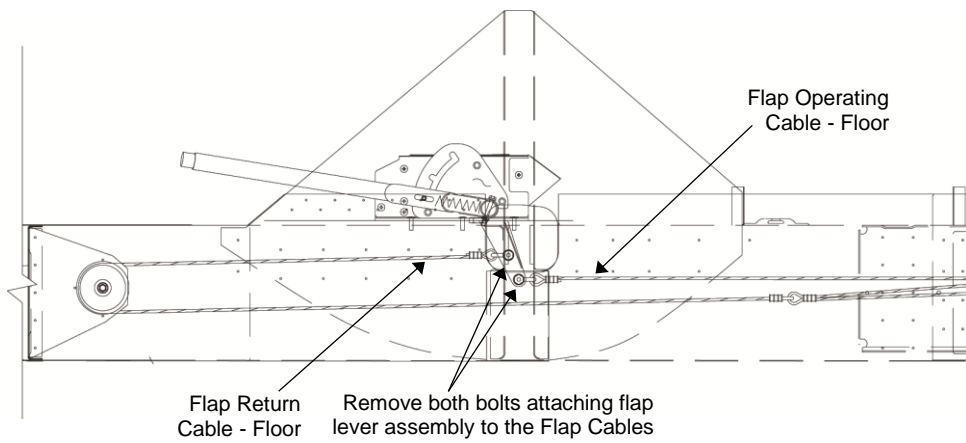

Figure 30: Flap Lever – Cable disconnection
- 5) Lift Flap Lever Assembly, and disconnect the Flap Operating Cable - Floor (GA8-275011-013) and the Flap Return Cable - Floor (GA8-275011-017) from the Flap Lever Assembly (See Figure 30).